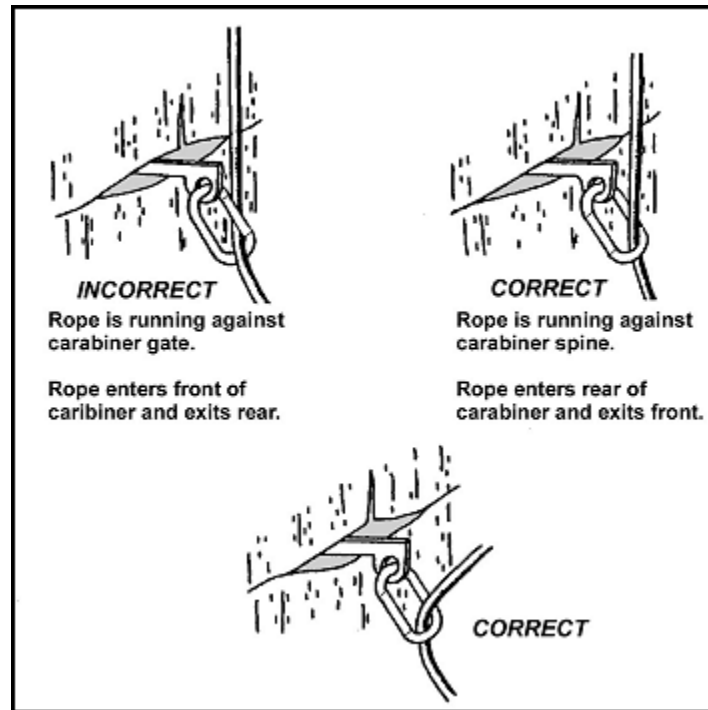

Figure 6-29. Clipping on to protection.
(2) **Correct Clipping Technique.** Once an anchor is placed, the climber "clips" the rope into the carabiner (Figure 6-29). As a carabiner hangs from the protection, the rope can be routed through the carabiner in two possible ways. One way will allow the rope to run smoothly as the climber moves past the placement; the other way will often create a dangerous situation in which the rope could become "unclipped" from the carabiner if the leader were to fall on this piece of protection. In addition, a series of incorrectly clipped carabiners may contribute to rope drag. When placing protection, the leader must ensure the carabiner on the protection does not hang with the carabiner gate facing the rock; when placing protection in a crack ensure the carabiner gate is not facing into the crack.